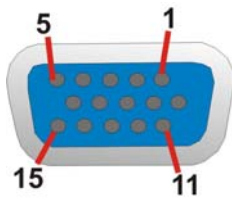

Figure 3-26: VGA Connector
- CN Pinouts:** See **Figure 3-26** and **Table 3-8**